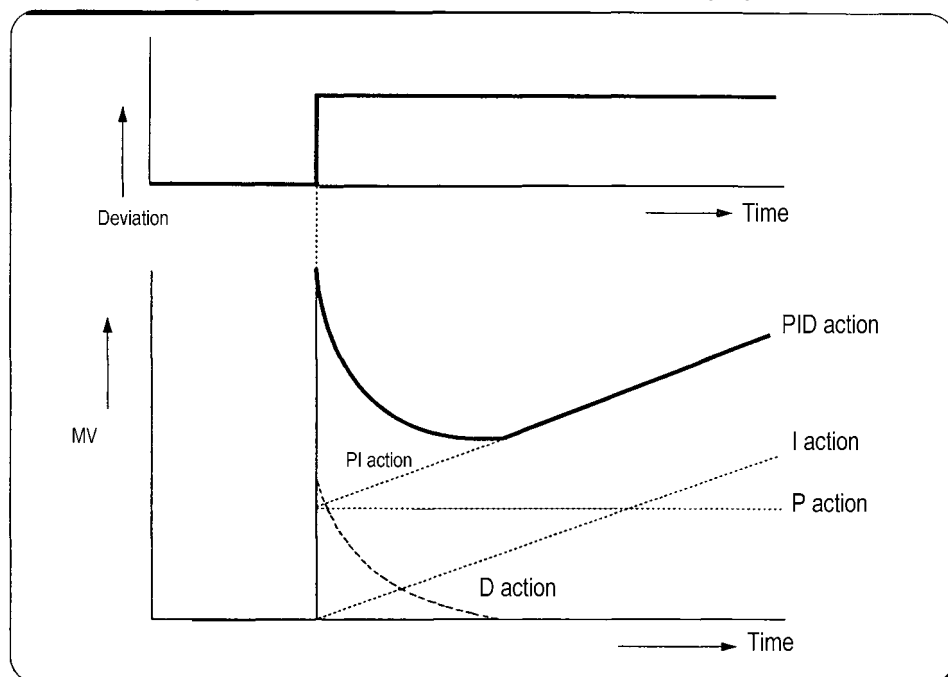

Fig. 7.7 PID action with a constant deviation
- ① PID action controls the control object with the manipulation quantity produced by (P+I+D) action
② PID action when a given deviation has occurred is shown as the following Fig. 7.7.